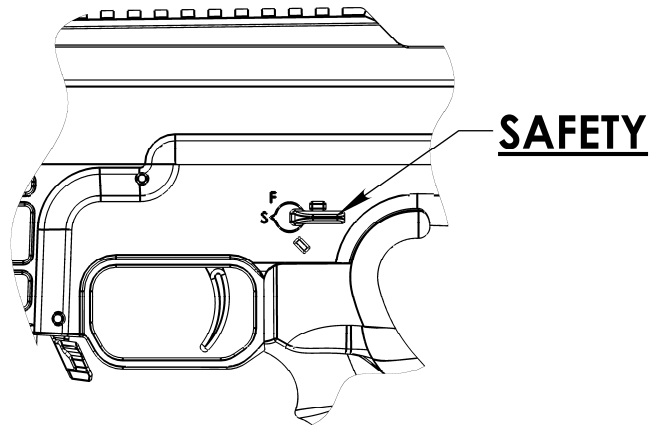

Figure 4. Safety lever to "SAFE".
2. Rotate the safety lever to the "SAFE" (lever horizontal) position. (Figure 4.)